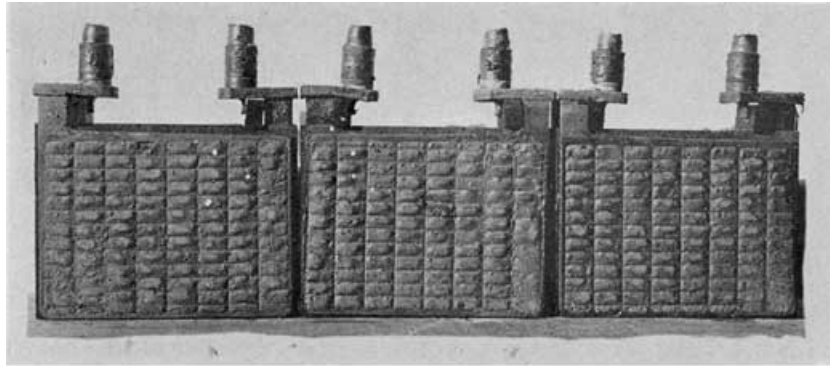

Fig. 213. Badly Bulged Negatives.
3. "Badly bulged negative plates, Fig. 213, cause lack of capacity because the active material is loose, and does not make good contact with the grids. If the active material is not badly granulated (having a grainy appearance) the plates call be used again. Sulphated negatives have very hard active material, and will feel as bard as stone when scratched with a knife. Hard negatives from Which active material has been falling ill lumps Oil account of being overdischarged after having been in in undercharged condition may be nursed back to life, if too much of the active material has not been lost.